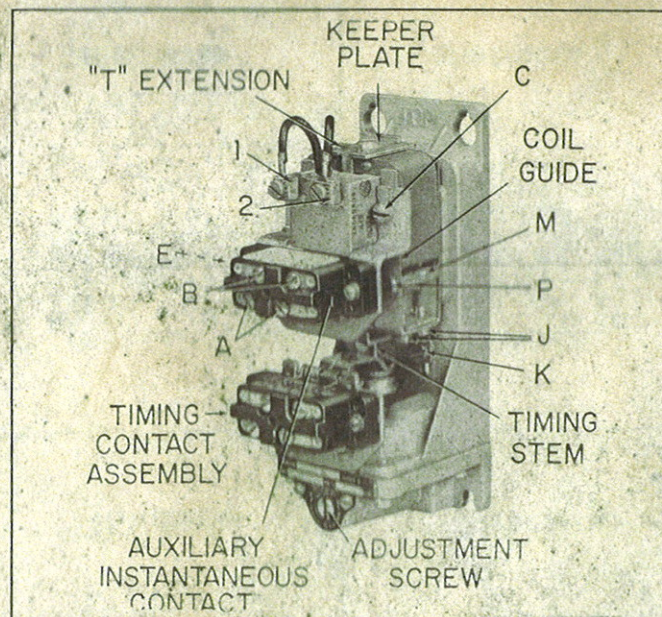

Figure 1 - Typical relay with instantaneous unit
All terminals are readily accessible from the front of the relay and the large panhead screws on the contact terminals (A & B), Fig. 1, as well as the saddle terminals (1 & 2) on the coil make for an easy job of wiring.
1. Remove screws E and P, Figure 1.
1. Remove Screws C, Figure 1.